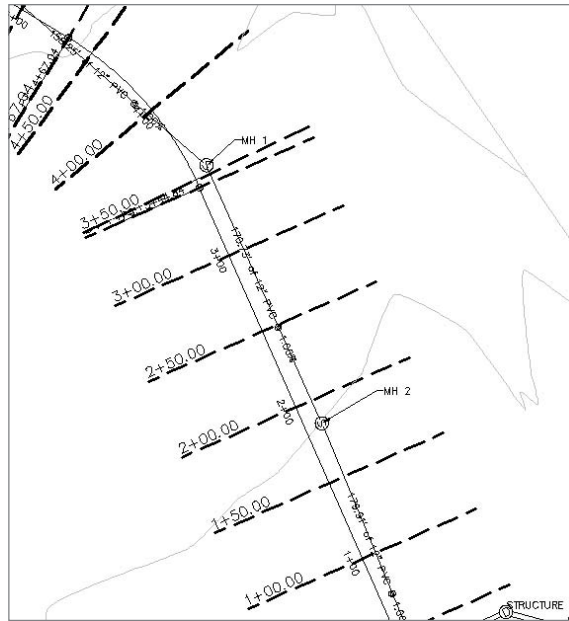

Figure 11.7
10. Press ↵ to exit the command. Labels will appear on each sample line, as shown in Figure 11.7.